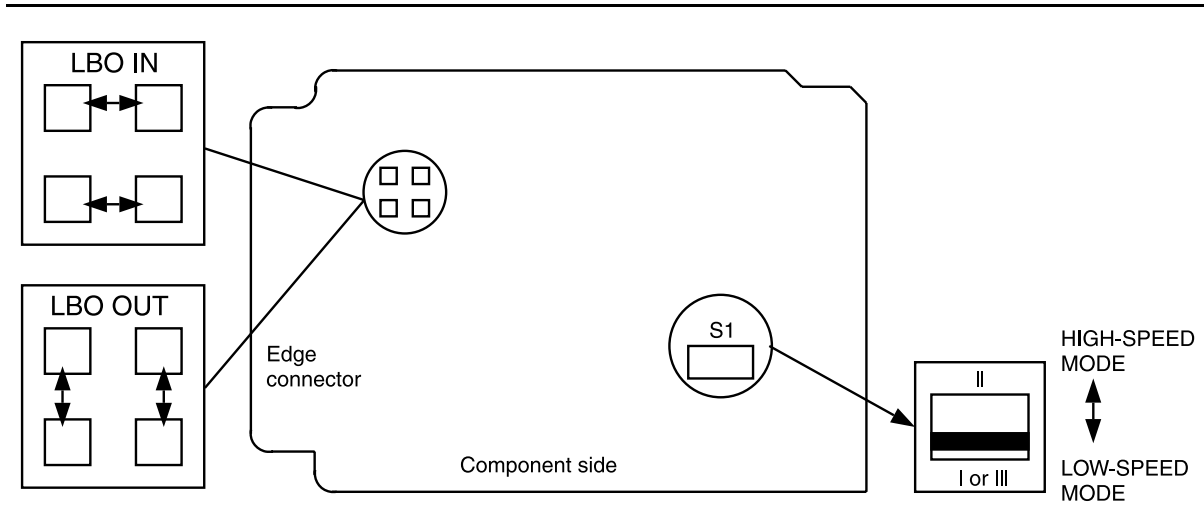

Figure 1 – BBG6 STS1E Option Settings
3. Refer to Table A and Figure 1. Install the STS1E option jumpers per Table A.